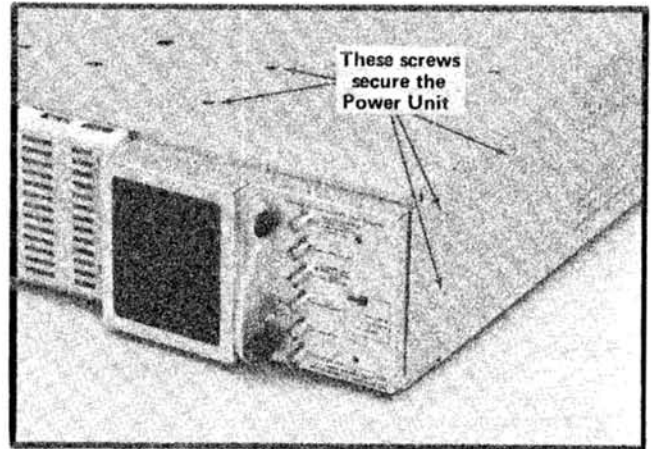

Fig. 4-1. Power Unit removal for the R7623.
2. Remove the six screws which secure the power unit to the sides of the instrument (see Fig. 4-1 for locations of screws on R7623).